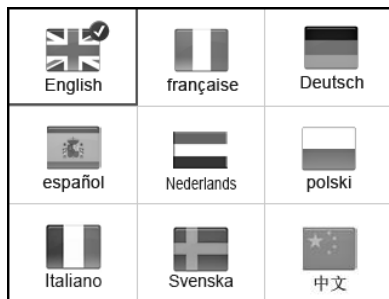

Figure 3.3
- 2) Use the **UP/DOWN** scroll button to select the desired language and press the **OK** button to save your selection and return to previous screen (*Figure 3.3*).